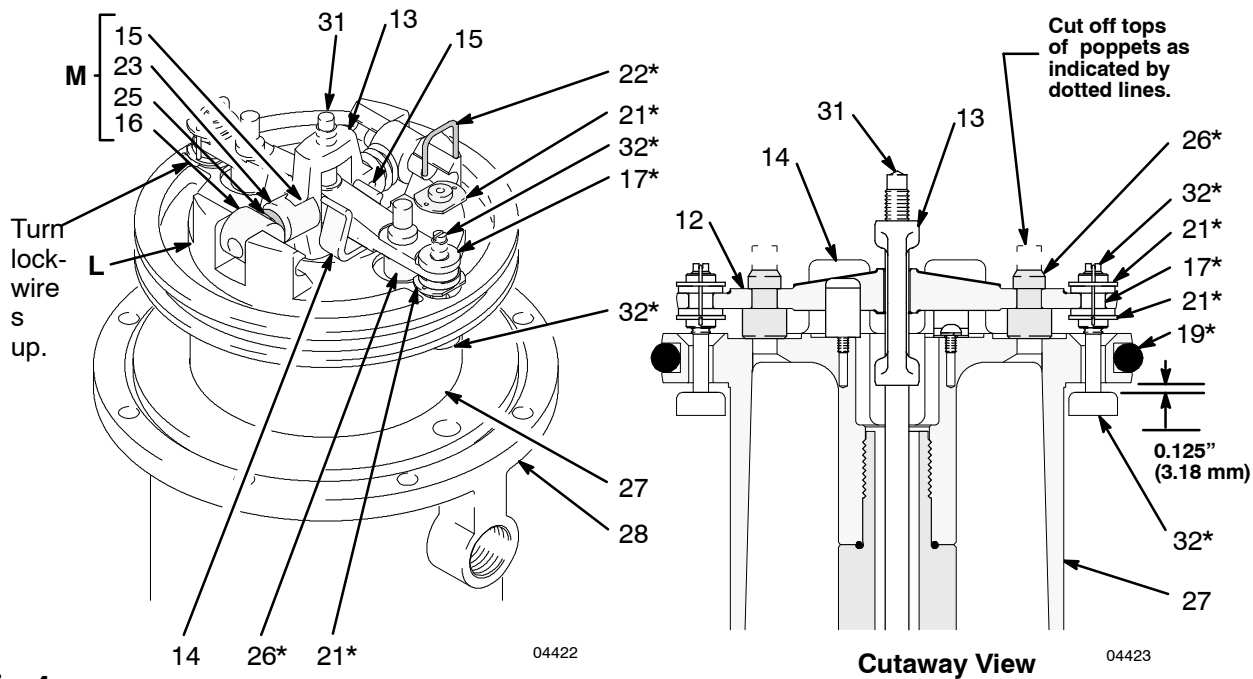

Fig. 4
10. Pull the piston assembly from the air motor base (28), and set it aside.
11. Remove the vee block seal (10†) with a pick, and clean the groove in the air motor base (28). Remove any dirt in the groove, and wipe the groove clean with a cloth.
13. Use a screwdriver to push down on the trip rod yoke (13), and snap the toggles down. See Fig. 4.
14. *In this step, while you are prying with the screwdriver with one hand, cover the toggle assemblies with your other hand so as to catch the spring-loaded toggle assemblies when they snap out of the lugs.* Place the tip of a screwdriver into the piston between the piston lugs (L) below the pivot pins (16) on the toggles, pry up with the screwdriver handle to compress the springs on the toggle assembly (M) up and away from the piston lugs, and remove the parts. See Fig. 4.
15. Straighten the lockwires (22*) and remove them from the valve nuts (21*). Screw the top nuts off. Remove the trip rod yoke (13), actuator (12), and trip rod (31). Unscrew the bottom nuts (21*), and remove the poppets. Make sure the valve bar spring clips (14) are not worn or damaged and that they properly guide the actuator (12).
16. Remove the exhaust valve poppets (26) by cutting them with a side cutter, then pull them out of the actuator (12).
1. Place the piston rod (29) flats in the vice with the air motor up.
2. Pull the exhaust valve poppets (26*) into the valve actuator (12), and clip off the top parts of the poppets (shown with dotted lines in the **Cutaway View** in Fig. 4).
3. Install the grommets (17*) in the actuator (12), place the inlet valve poppets (32*) in the piston, and thread the bottom valve nuts (21*) onto the inlet valve poppets until there are a few threads left before the threads run out.
4. Grease heavily and place the trip rod (31) in the piston, place the actuator (12) in the yoke (13), and place the well-greased actuator/yoke assembly in the piston, with the trip rod going through the center holes of the actuator and yoke and the inlet valve poppets (32*) going through the grommets (17*).
6. Install the toggle pins (15) in the yoke (13), place the toggle arm (23) ends of the toggle assembly (M) onto the toggle pins, and snap the pivot pin (16) ends of the toggle assembly into the lugs (L).
7. Measuring with the gauge (Part No.171818), create 0.125 in. (3.18 mm) of clearance between the inlet valve poppets (32*) and the piston seat when the inlet valve is open. See the **Cutaway View** Fig. 4.